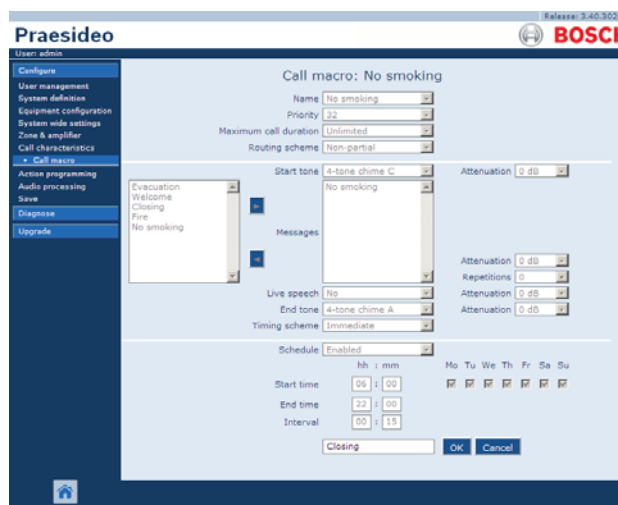

figure 46.4: Add call macro, step 3
- 3 Enter the name of the new call macro in the *Name* field (see figure 46.4 for an example). It may consist of up to 16 characters.